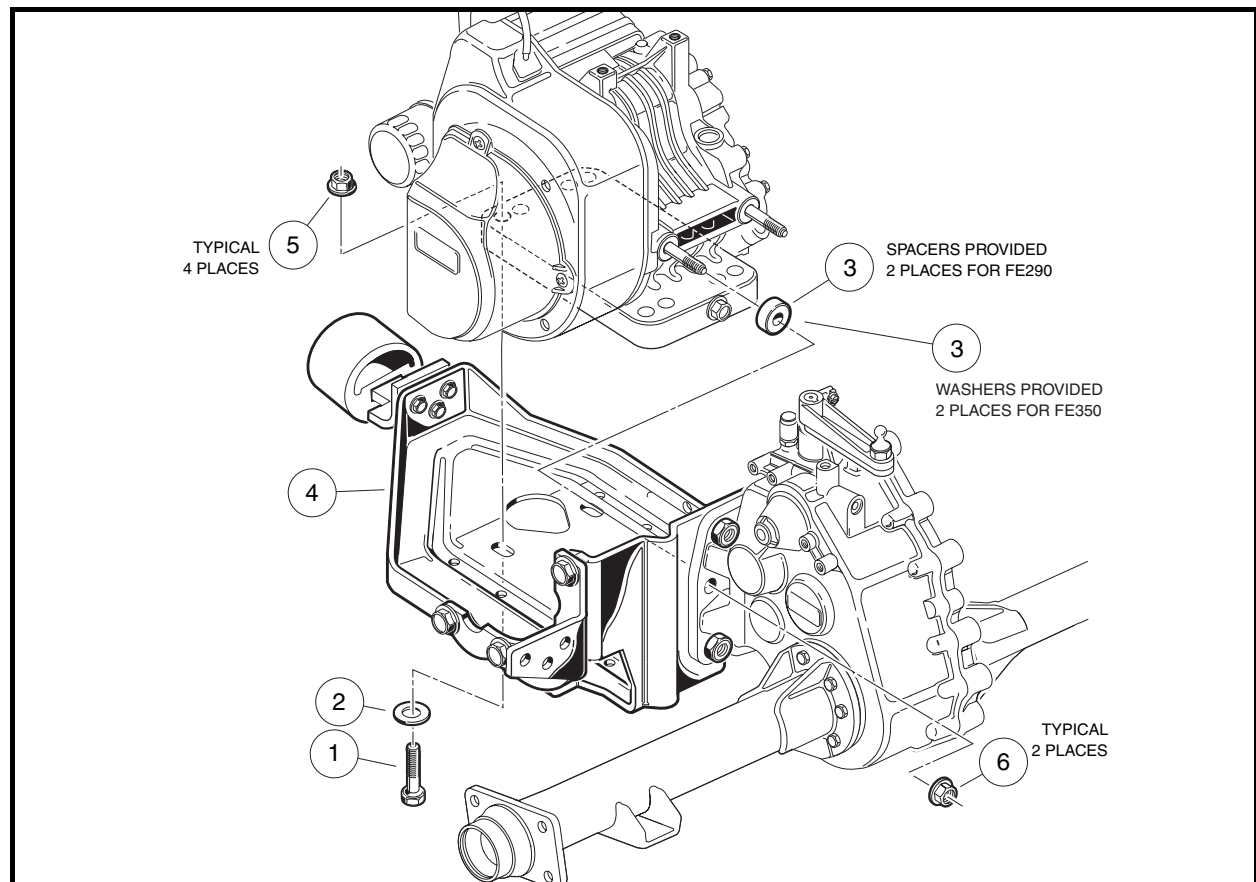

Figure 15-4 Engine Mounting Plate
5. Remove engine mounting hardware (items 1, 2, 5 and 6) **(Figure 15-4, Page 15-4).**
1. Place engine onto engine mounting plate and tighten the mounting hardware (1, 2 and 5) to 13 ft-lb (17.7 N·m). Tighten nuts (6) to 17 ft-lb (23.1 N·m) (**Figure 15-4, Page 15-4**).